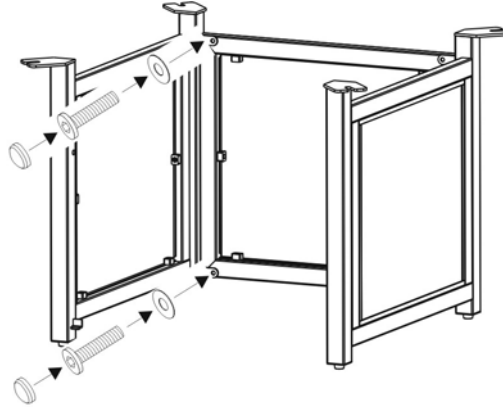

Figure 2
2. Attach the back panel to the side panels (1 and 2) by using four 1/4"x15 mm bolts and Ø6.5x1.0 mm washers as shown in Figure 2. Guide the bolts through the holes in back panel, into the pre-drilled holes in the side panels. **Hand tighten only.**